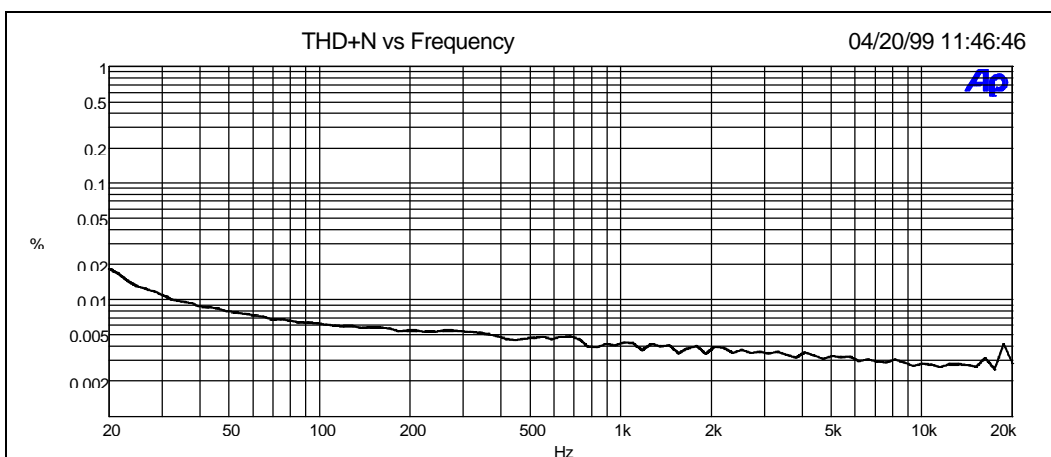

Figure 4 THD+N [%] as a function of the frequency [Hz] [4], input level = +10 dBu with input transformer (NRS 90244) installed
8.1 THD+N [4] figure 4 70 Hz ... 20 kHz < 0.01 % @ +10 dBu
THD+N [4] figure 4 20 Hz ... 20 kHz < 0.05 % @ +10 dBu